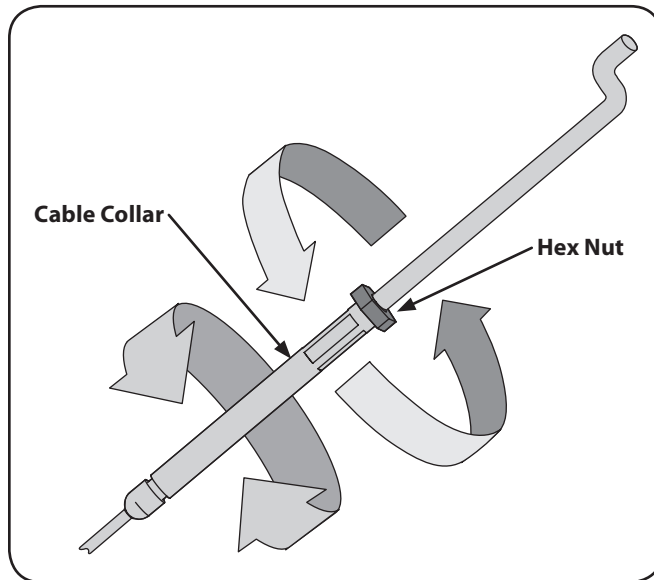

Figure 3-8
2. Adjust the forward clutch cable by loosening the hex nut. See Fig. 3-8.
3. Turn the cable collar section one or two turns to increase or decrease tension on the cable. See Fig. 3-8.
4. Retighten the lock nut against the cable collar. See Fig. 3-8.